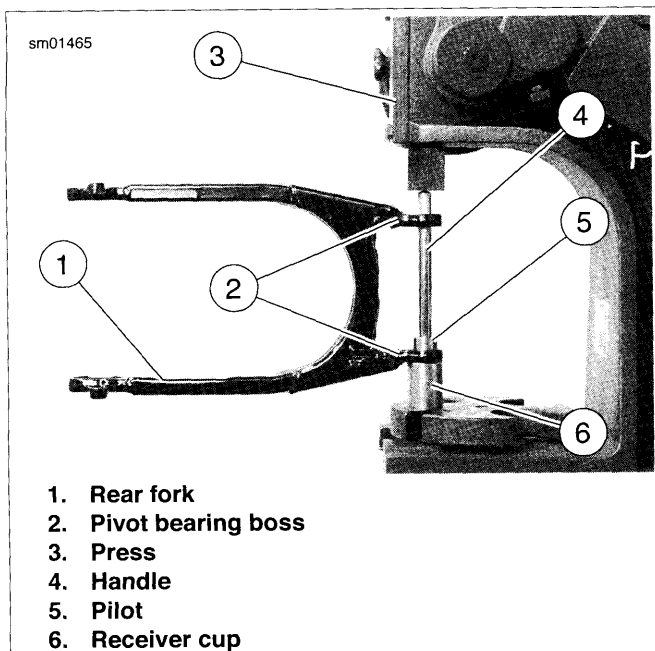

Figure 2-196. Removing Rear Fork Pivot Bearings: All Models (XL Shown)
1. See Figure 2-196. Using BEARING REMOVER/INSTALLER TOOL (Part No. HD-46281) (4, 5, 6), carefully press bearing assemblies from fork bearing bosses (2):
- a. Place receiver cup (6) on press bed, with recessed end of cup facing up.
- b. Place rear fork pivot bearing boss (2) over cup as shown in the photo.
- c. Slide pilot (5) through bearing and into receiver cup.
- d. Insert handle (4) through other rear fork pivot bearing boss and bearing, down into pilot.